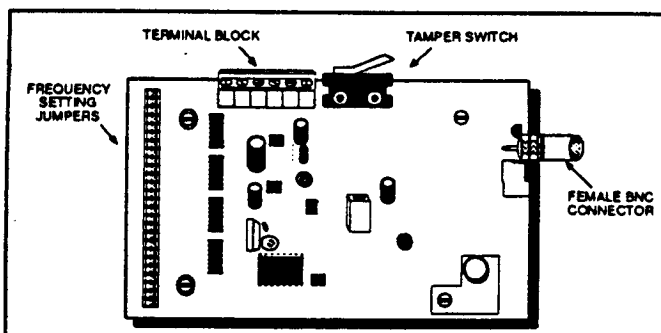

Figure 3: C472/C474 Transmitter
1. Set the frequency the transmitter is to operate on by covering the appropriate plug-in jumpers. The Frequency Setting Chart provides quick reference. **Note:** Some C474 transmitters are pretuned at Radionics (see Figure 3).